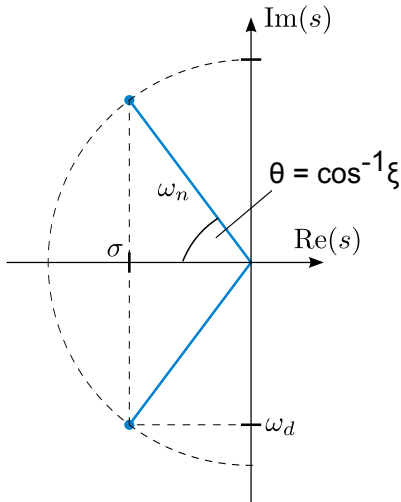

Figure 1: Location of the poles of (3) in terms of  $\omega_n$  and  $\xi$ .
For  $\xi \leq 1$ , the above system has complex poles, which are depicted in the complex plane in Figure 1. For complex poles in the left half plane, we make the following important observations from Figure 1:
- Going back to Figure 1 and equations (5) and (4), how does an increase in  $K$  affect  $\xi$  and  $\omega_n$ ?